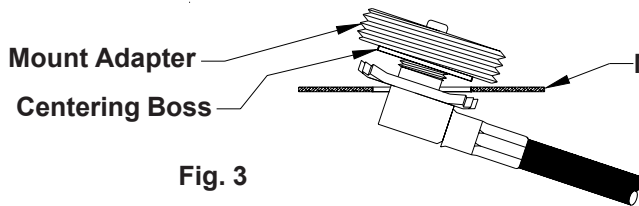

Fig. 3
7. If the underside of the mounting location is accessible push the stanchion up through hole and have a helper thread the mount adapter onto stanchion. Otherwise, thread the mount adapter onto the stanchion 1/2 to 3/4 of a turn. Hold the mount adapter, angle the stanchion into the hole (Fig. 3).